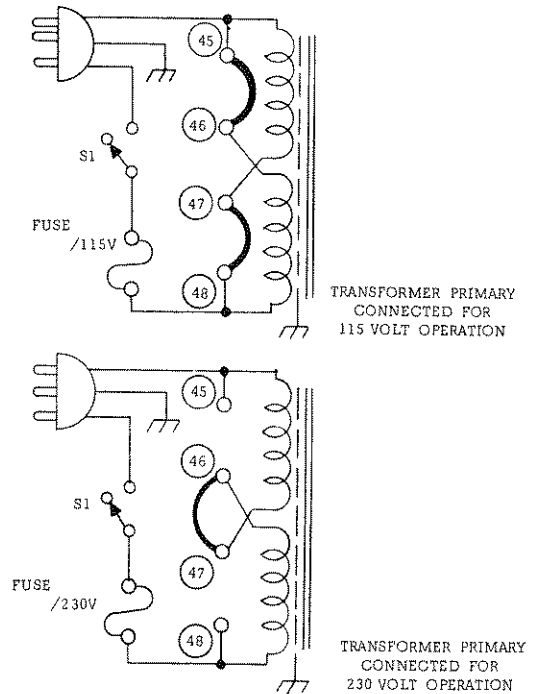

Figure 2-3. Primary Connections
#### 2-17 CONNECTIONS FOR 230 VOLT OPERATION (Figure 2-3)
- b. Break the printed wiring between 45 and 46 and also between 47 and 48 on the printed circuit board. These are shown in Figure 2-3, and are labeled on printed side of the circuit board.